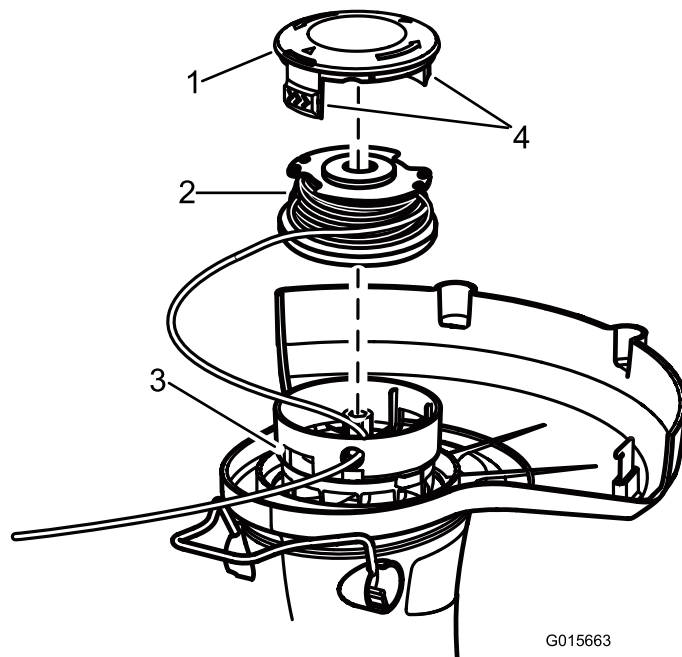

Figure 18
2. Push in the tabs on the side of the spool retainer (Figure 18).
2. Remove the spool. See Replacing the Spool (Figure 18).